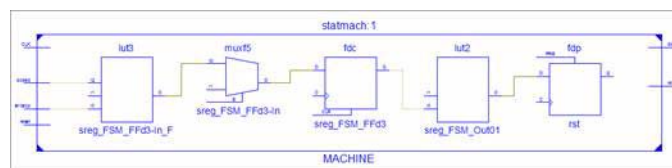

Figure 5-19: Upper Hierarchical Level
- Press the Pop to the Calling Schematic icon to cross hierarchy in a bottom up direction as shown in Figure 5-19.